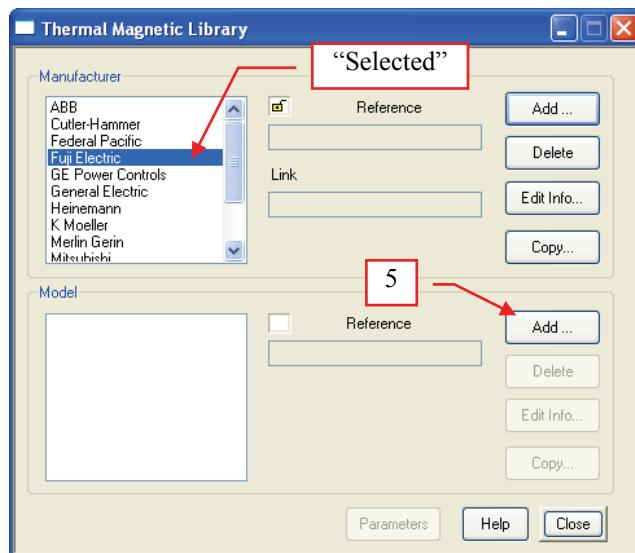

Fig. 16
- With the “Fuji Electric” selected in the list box of the “Manufacturer” frame, click the “Add...” button in the “Model” frame. See Fig. 16